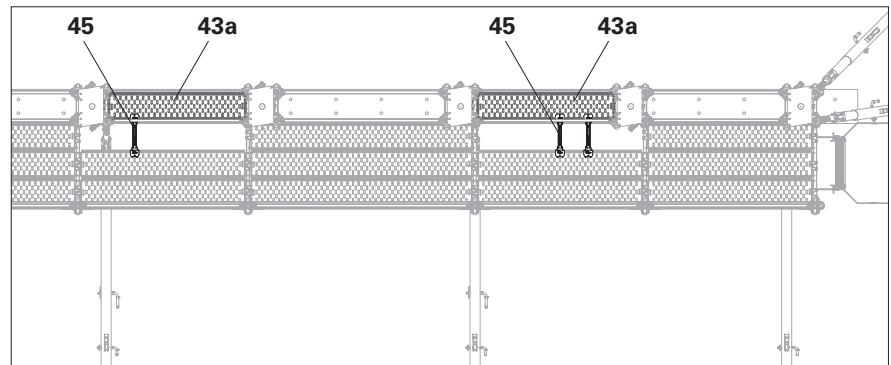

Fig. A6.19a
3. Fit one Deck Traverse UDT 25 (**45**) to the right and one to the left of the required recess. (Fig. A6.19a)